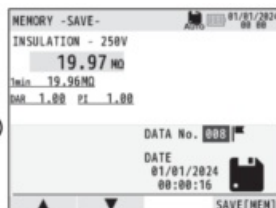

Fig. 15-2
2. Press the MEM switch (less than 1 sec.) and switch the screen to memory screen. (Fig. 15-2)
3. Set the DATA No. if necessary. (Fig. 15-2)